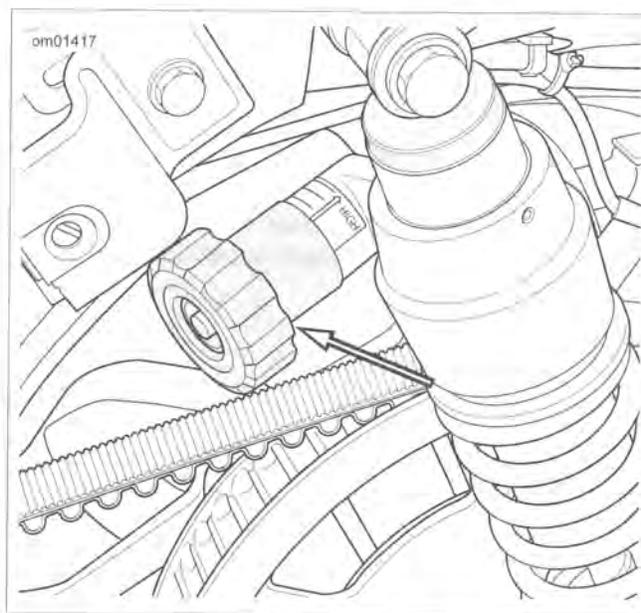

Figure 1-42. Preload Adjustment Knob
2. See Figure 1-42. Rotate the preload adjustment knob counterclockwise until it stops. This is the minimum preload position.